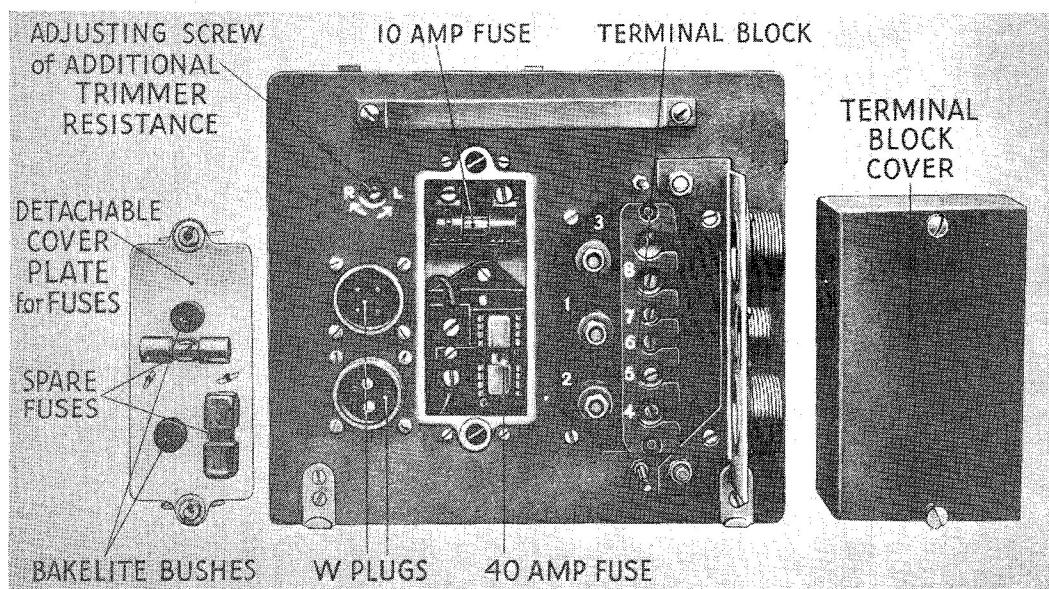

Fig. 1. Front of control panel
4. The control panel (fig. 1) consists of a right-angled sheet metal chassis, with a vertical plate forming the front of the panel, a base on which the components are mounted, and a ventilated cover secured by Dzus